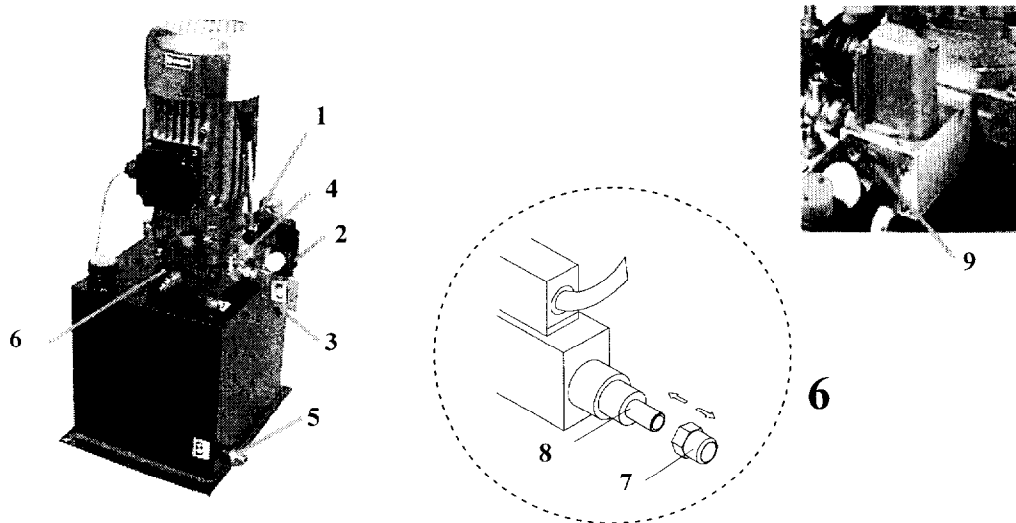

Fig. 11 Hydraulic unit with manual pump and lowering valves. To lower the lift in the event of a malfunction
- Open the front panel of the control desk, and press the valve A upwards using a thin screwdriver or a pin punch. At the same time pumping with the manual pump (**Fig. 11, Item 1**), until the lift is raised slightly (for bleeding of the manual pump, see Section 5.1), and the gear racks become disengaged.
- Unscrew the cap nut (**Fig. 11, Item 7**) on the valve (**Fig 11, Item 6**). Release the lock nut from the adjusting screw from underneath and drive the screw in completely using a suitable socket screw wrench (hex. socket 3mm), the pad plates lower to the final bottom position.